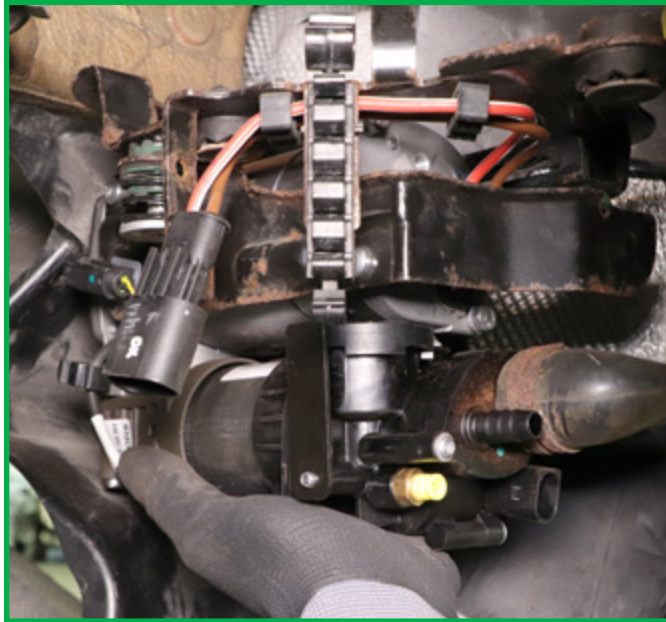

FIGURE 30
4. Install the entire compressor and bracket assembly on to the vehicle. (Figure 30)